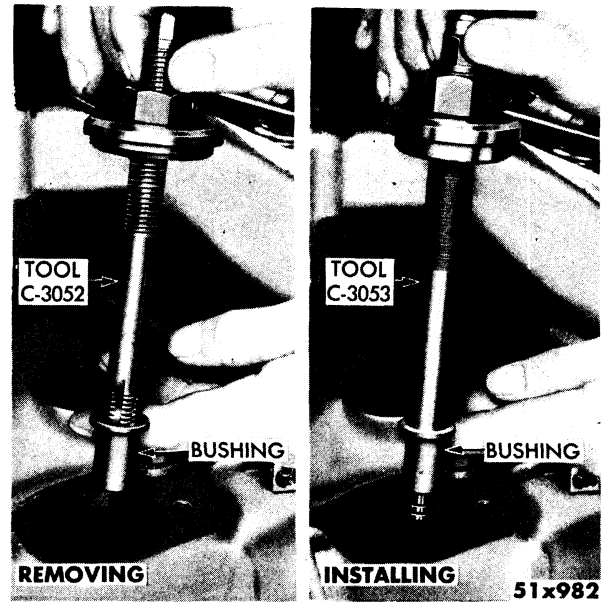

Fig. 77—Removing and Installing The Distributor Driveshaft Bushing
- (1) Insert Tool C-3052 into old bushing and thread down until a tight fit is obtained. Hold the puller head with a wrench, tighten puller bolt and pull out of bore in the block, as shown in Figure 77.
- (2) Slide new bushing over burnishing end of Tool C-3053, as shown in Figure 77, then insert tool and bushing into bore of block.
- (3) Drive the bushing and tool down into position using a soft hammer. As the burnisher is pulled through the bushing by pressure applied by tightening the puller nut, the tool swedges the bushing tight in its bore and burnishes to the correct size. **DO NOT REAM THIS BUSHING!**